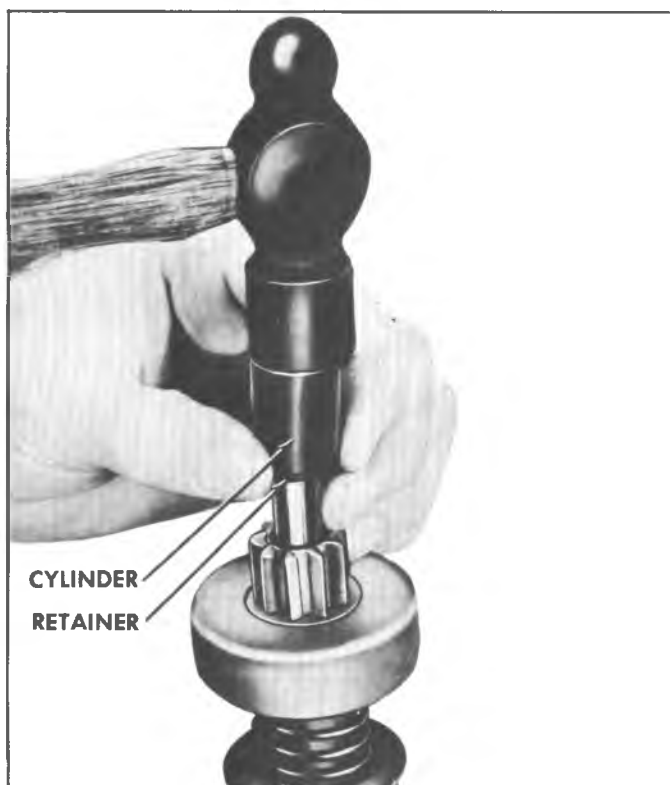

Fig. 3S--Driving Retainer Off Snap Ring
- b. Slide a standard half-inch pipe coupling or other metal cylinder of suitable size (an old pinion of suitable size can be used if available) onto shaft so end of coupling or cylinder butts against edge of retainer (fig. 3S). Tap end of coupling with hammer, driving retainer towards armature end of snap ring.